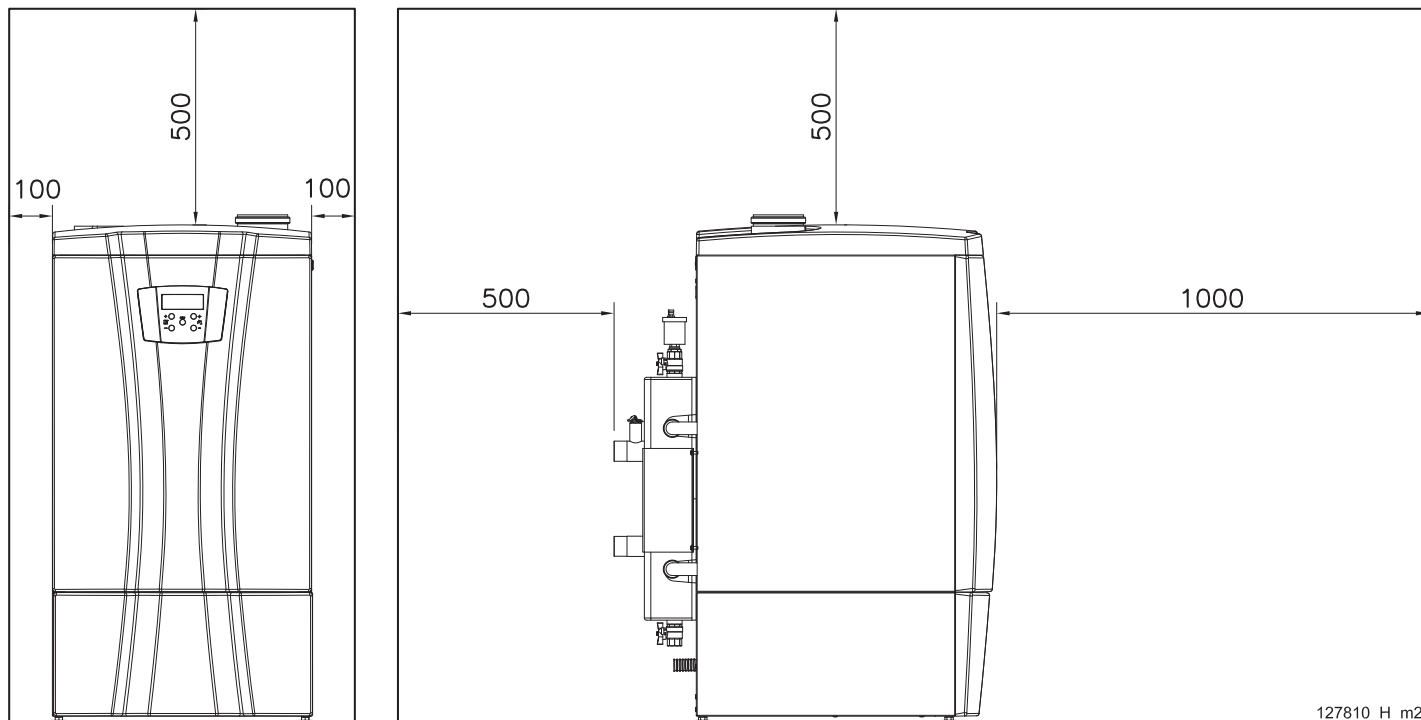
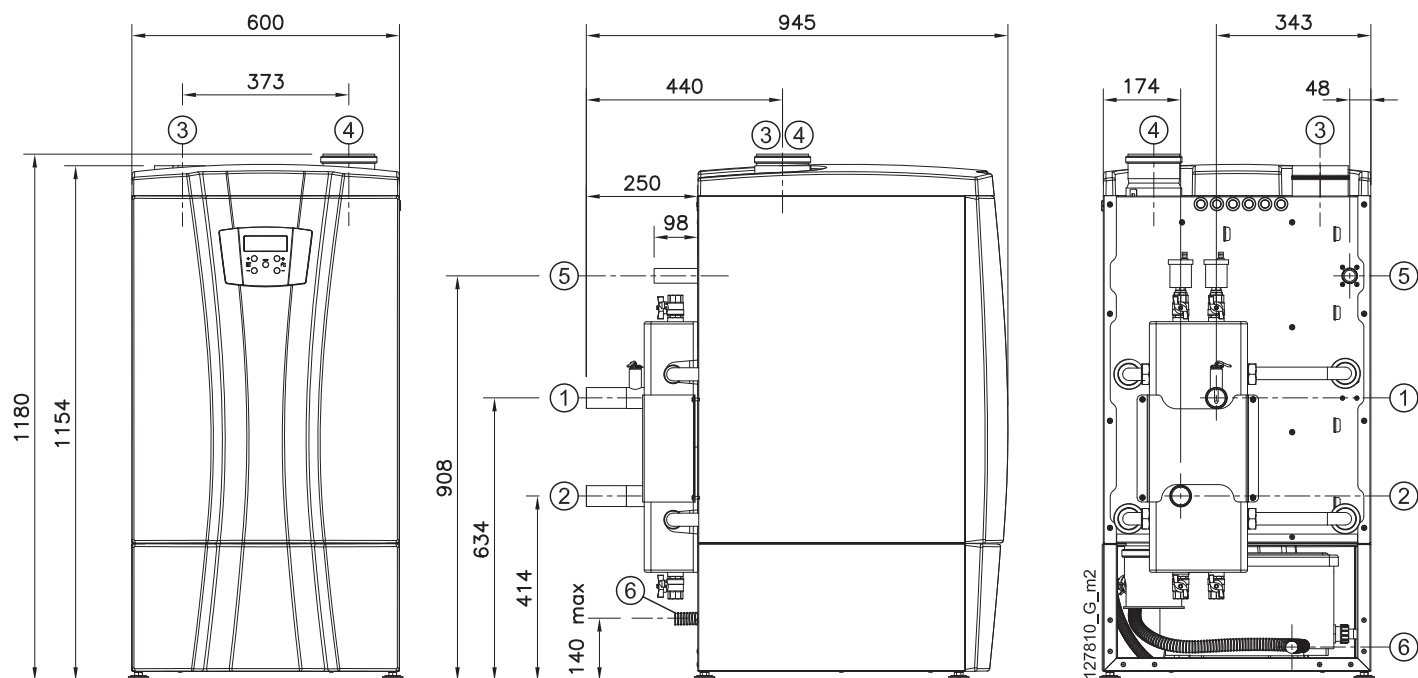

Figure 7-1 - Minimum distances to respect for 60T, 70T, 100T, 115T and 140T models
Figure 8-1 - Fitting dimensions and centre distances for 60T, 70T, 100T, 115T and 140T models (References in figure 9-1)
- ☞ Check figures 7-1 and 7-2 regarding the minimum distances to respect for installation and future maintenance.
Free space must be left around the appliance both for installation and maintenance, as illustrated in figures 7-1 and 7-2. Figures 8-1, 8-2, 9-1 and 9-2 show the appliance connection dimensions and centre distances.
To identify the position of the fittings, see figures 8-1 and 8-2.